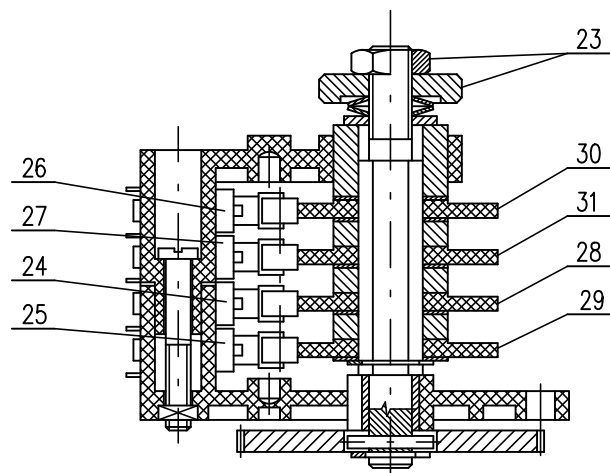

Fig. 4
4.2 Adjustment of position-indicating unit (Fig.4)
The EA are in the production plant adjusted to a fixed angle (according to the specification), given on the nameplate. While setting, adjusting and resetting follow these steps (Fig. 4):